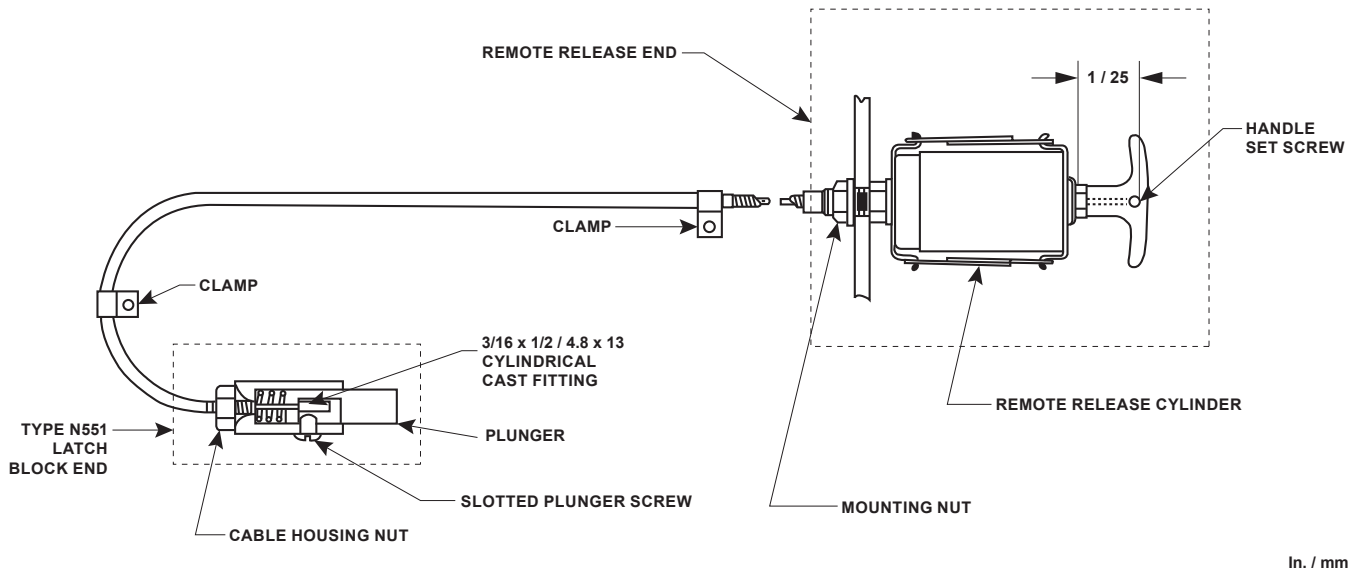

Figure 5. Type P164B Cable Release Installation Schematic
2. If it is necessary to cut the cable to a shorter length, pull about one foot of inner cable from the Type N551 latch block cable end (end with the 3/16 x 1/2 in. / 4.8 x 13 mm long cylindrical cast fitting, see Figure 5) from the housing.
5. Loosen the slotted screw, Figure 5, on the Type N551 valve's latch block until the plunger can be pulled from the latch block.